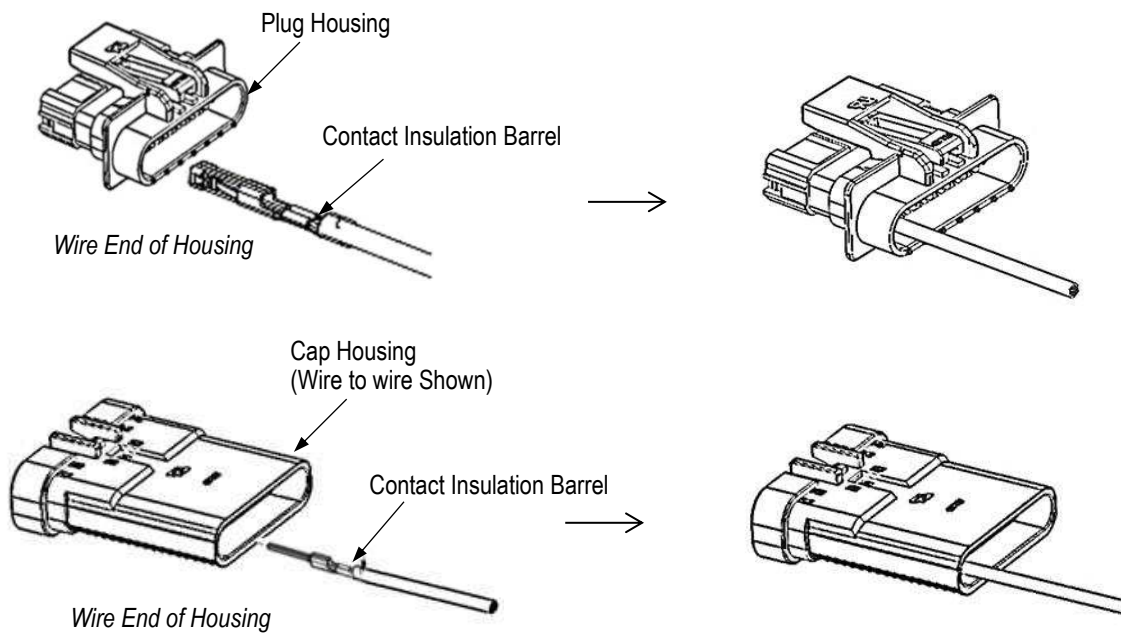

Figure 6
2. Make sure to align contacts with the desired circuit cavity at the BACK of the rear housing section. Grasp the wire-directly behind the contact insulation barrel-and push the contact straight into the cavity until it bottoms (there should be an audible click). Pull back lightly on the wire to be sure the contact is locked in place. Refer to Figure 6.